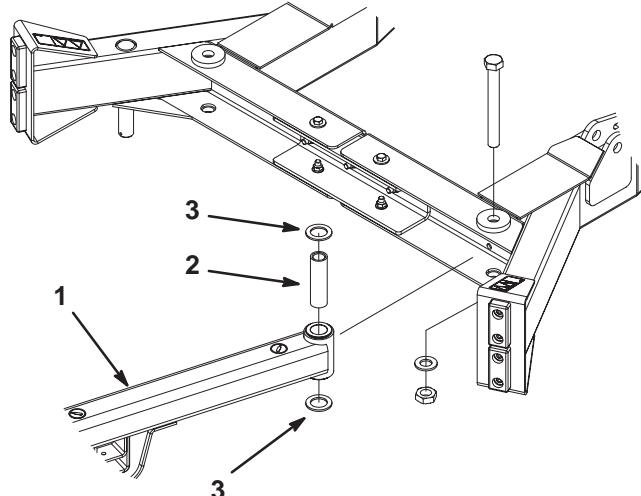

Figure 10
5. Secure left brush arm to left lift arm with a 3/4 x 6–1/2" lg. screw, spacer, (2) thrust washers, .813 x 1.500 flatwasher and 3/4 jam nut (Fig. 10). Thrust washers to be positioned between brush arm bushings and inside of lift arm. Torque to 145–190 ft-lb.